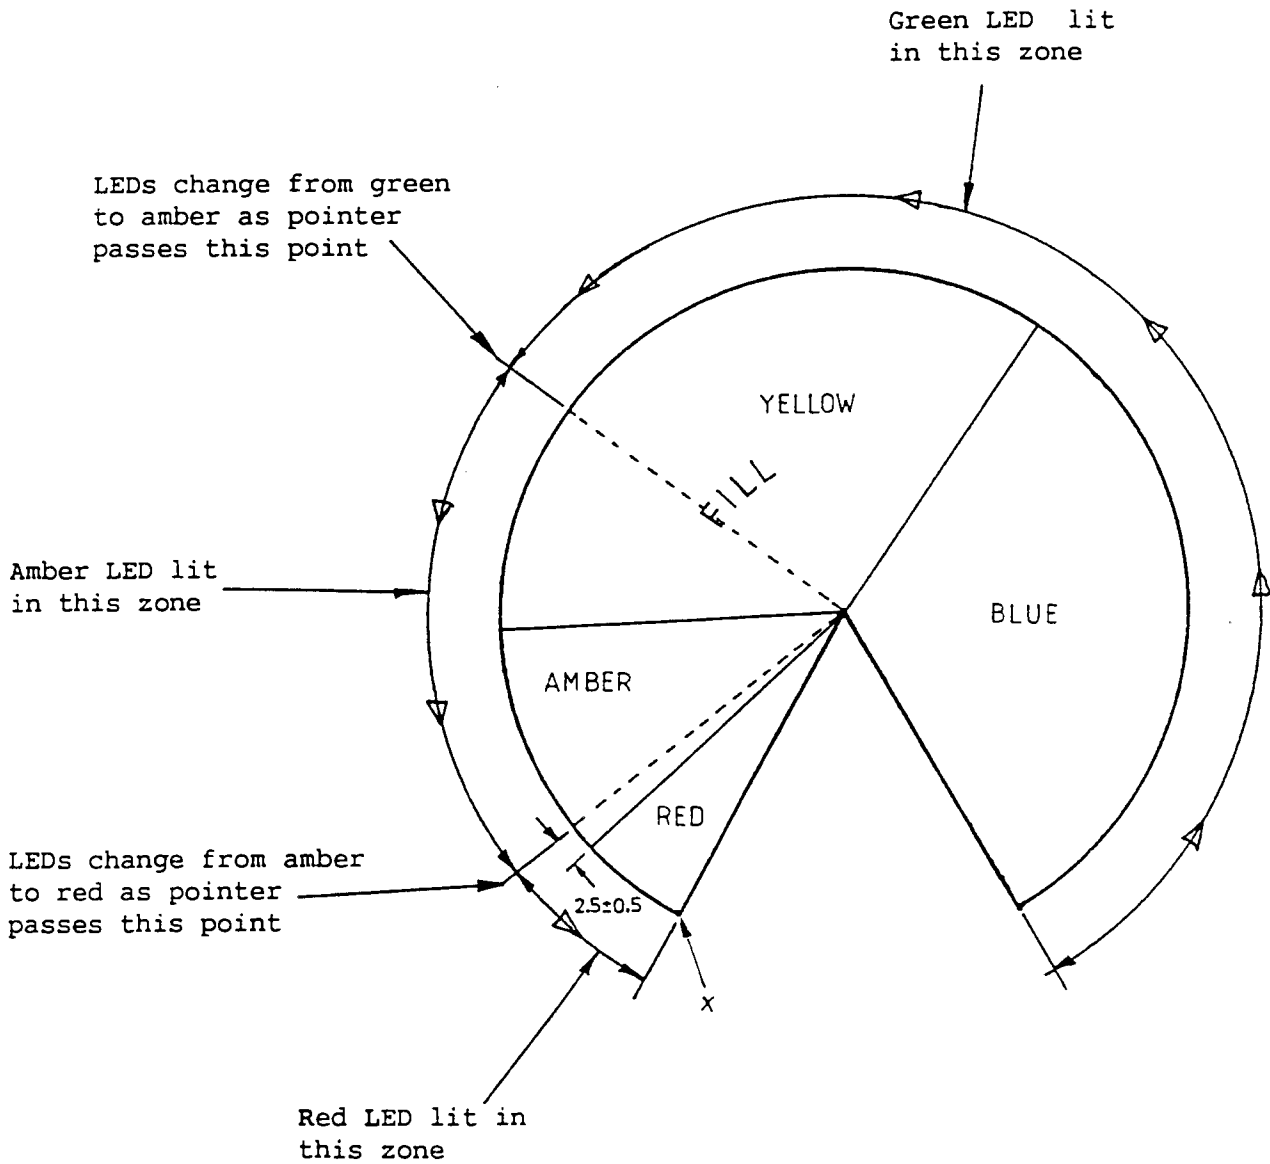

Figure 8. Dial Calibration Points - M32 Units
- 1.7 Turn the magnet fully anticlockwise (looking from the front of the gauge) and check that the tip of the pointer points to x on Figure 8. If it does not, adjust the pointer by loosening the nut (4.22), turning the spindle, and re-tightening the nut.